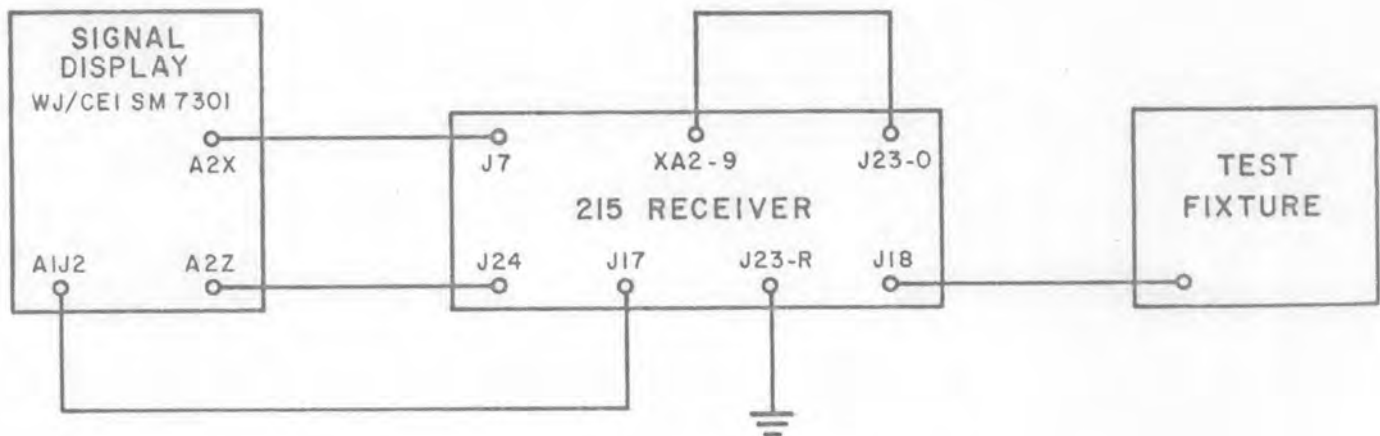

Figure 4-9. Test Setup, Remote LOG AGC Select Check
- (1) Place the remote tuning speed switch in the FAST position and the remote AGC select switch in the LOG position.
- (2) Connect the equipment as shown in Figure 4-9.